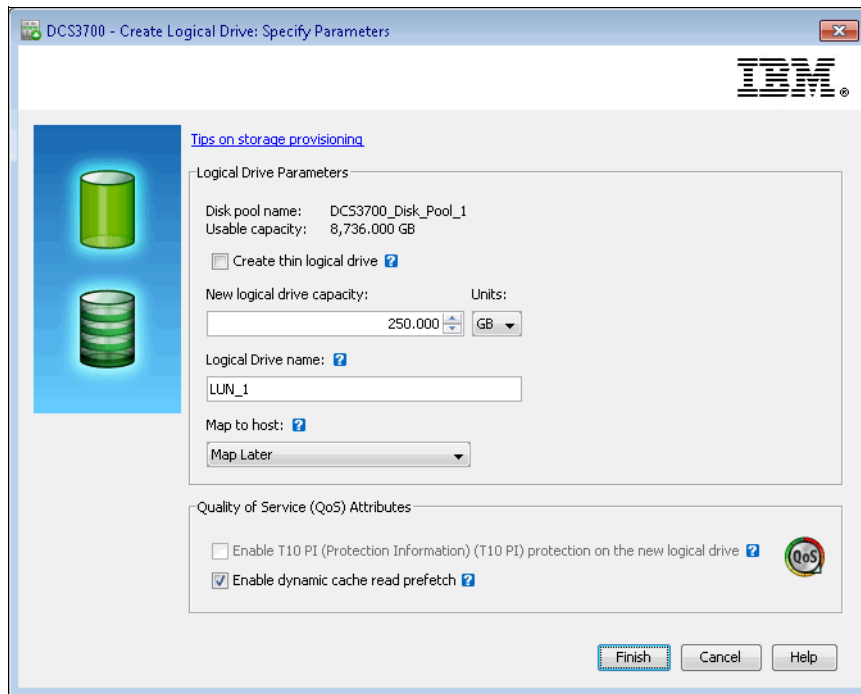

Figure 8-28 Specify parameters for logical drive in the disk pool
- In the Specify Capacity Parameters window, as shown in Figure 8-28 on page 250, complete the following steps:
- c. Enable or disable dynamic cache read prefetch, as shown in Figure 8-28. Enabling this option improves storage performance.